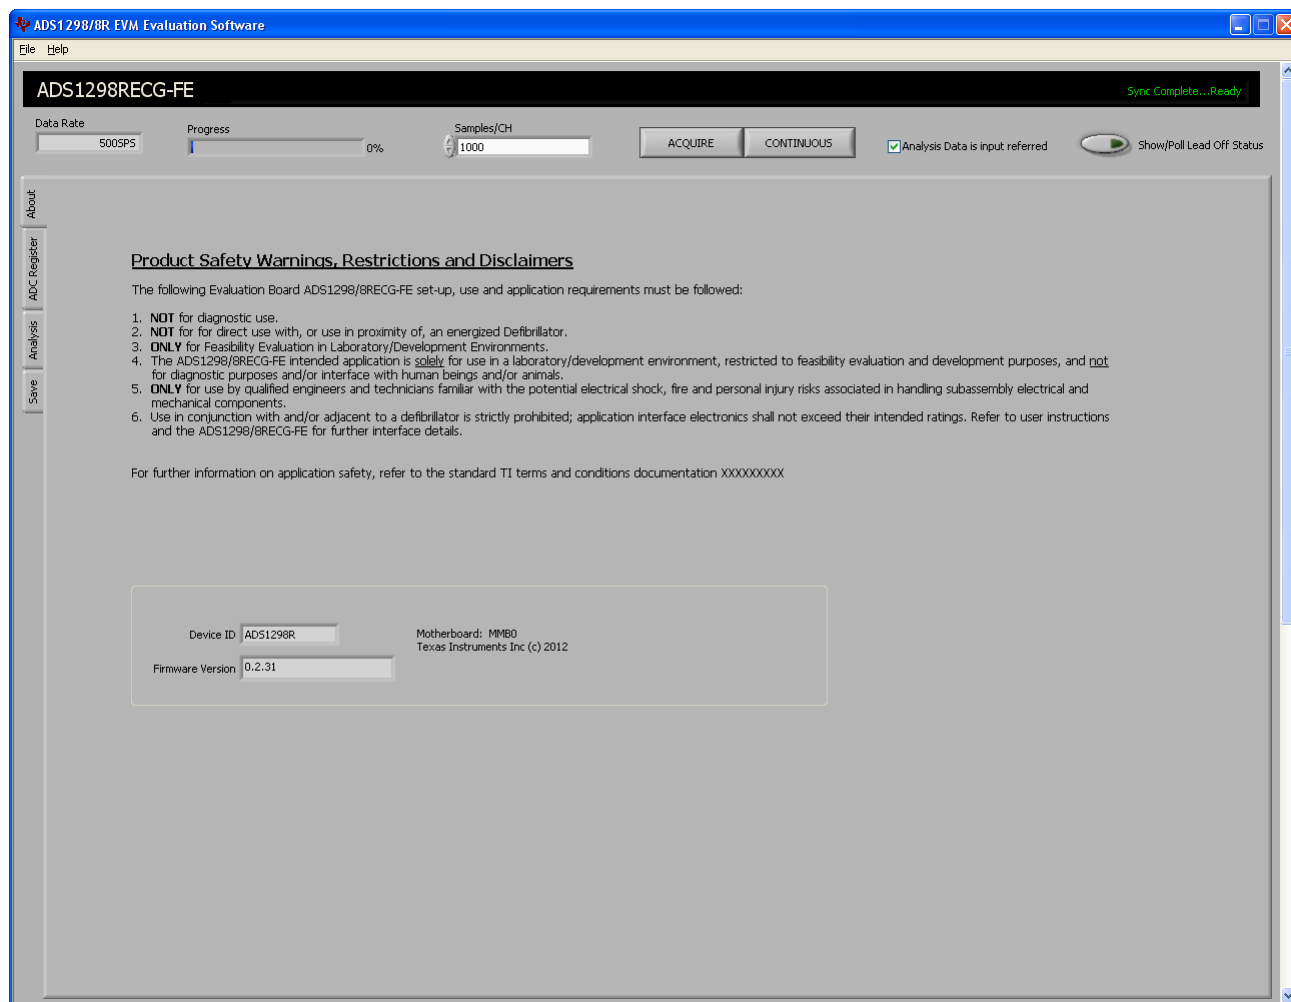

Figure 3. Software Start Screen/About Tab
The ADS1298RECG-FE software provides complete control over all the settings of the ADS1298R. By using the user interface (UI), the ADS1298R control registers can be manipulated to evaluate the various options available on the device. Figure 3 shows the starting UI screen of the software. The UI consists of a user menu (Section 3.1), a few top-level controls (Section 3.2), and a tabbed interface, with different functions available on the different tabs. The tabs are:
The *About* tab provides software information to the user. Important safety warning, restrictions, and disclaimers for the software and hardware are shown and should be followed during the evaluation of this product. Additional indicators are present to provide device information (**Device ID** and **Rev**) and software information (**Firmware Version**). The *About* tab should be the first screen displayed at startup (see Figure 3).